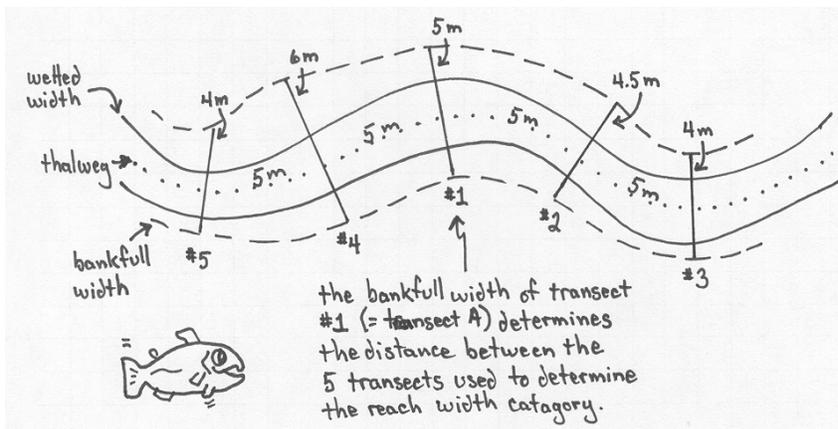

Figure 1: Five measurements taken to determine reach length.
3. Four additional bankfull widths will be measured, two upstream and two downstream (Fig. 1). For example, the initial bankfull width was 5.3 m (rounds to 5 m), go upstream 5 m and take a bankfull width measurement. Then go upstream from that point an additional 5 m to get the second upstream bankfull width measurement. Repeat this procedure going downstream from the initial bankfull width location to get two more bankfull width measurements. If the situation arises where one bankfull cannot be measured on the downstream end of transect A, take the additional measurement above Transect A.